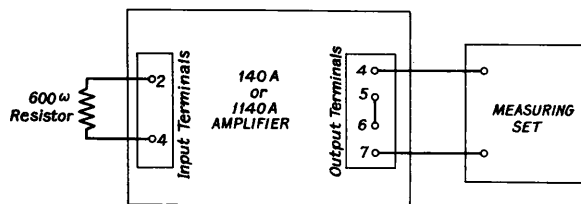

Fig. 3 — Noise Measuring Arrangement
- (1) Set up the testing arrangement shown in Fig. 3.
- (2) Set the gain control to maximum.